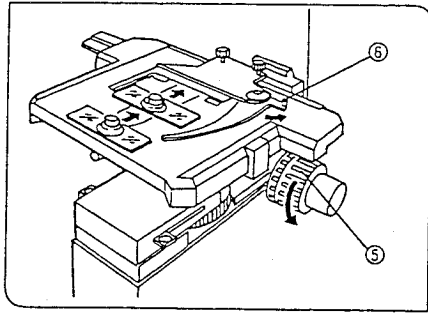

Fig. 39
Place a lump of clay (Plasticine) on a metal slide ④, place the specimen on the clay, and gently press the specimen with a hand press to stick the specimen to the metal slide. (Fig. 39)
1. Turn the coarse adjustment knob ⑤ to lower the stage.
2. Open the spring-loaded curved finger ⑥ on the specimen holder and place the specimen slides on the stage from the front.
3. After placing the specimen as far as it will go, gently release the curved finger. (Fig. 39)